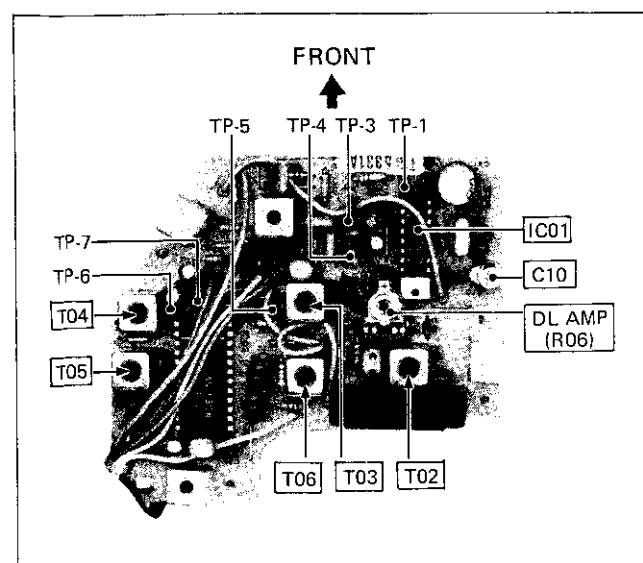

Fig. 5-2
4. Remove a receptacle wire. (see Fig. 5-2)